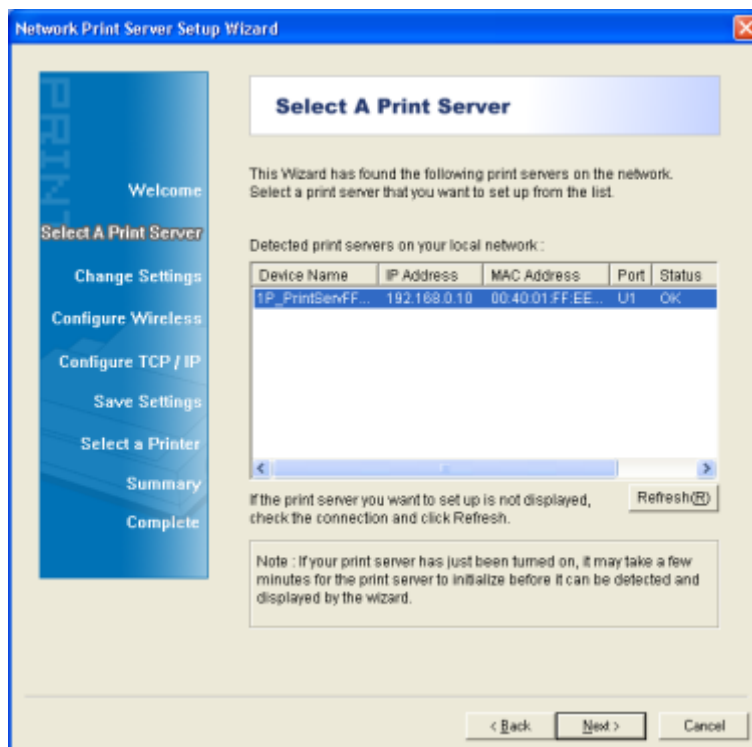

Figure 3-4
- From the “**Select A Print Server**” screen as shown in Figure 3-4, select the print server that you want to configure and click **Next**.